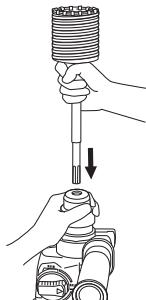

Fig. 26
- (2) Mount the core bit to the rotary hammer (Fig. 26).